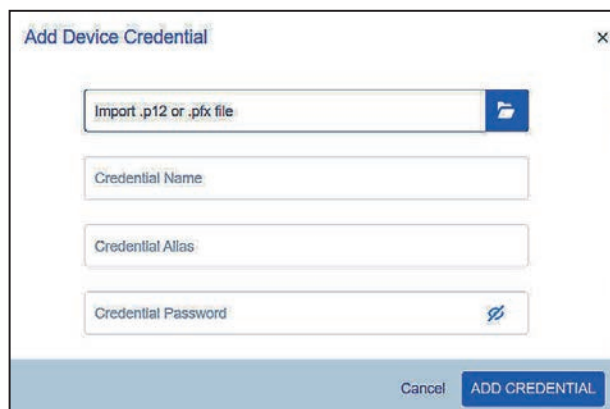

Figure 31. The Add Device Credential dialog box.
STEP 1. Click on the **Add Device Credential** button. A dialog box will open. See Figure 31.